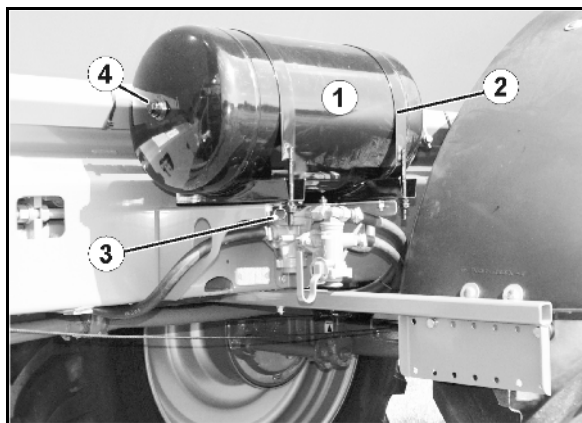

Fig. 121
2. Unscrew the drain valve (Fig. 121/3) from the air reservoir and clean the reservoir if there are signs of dirt.